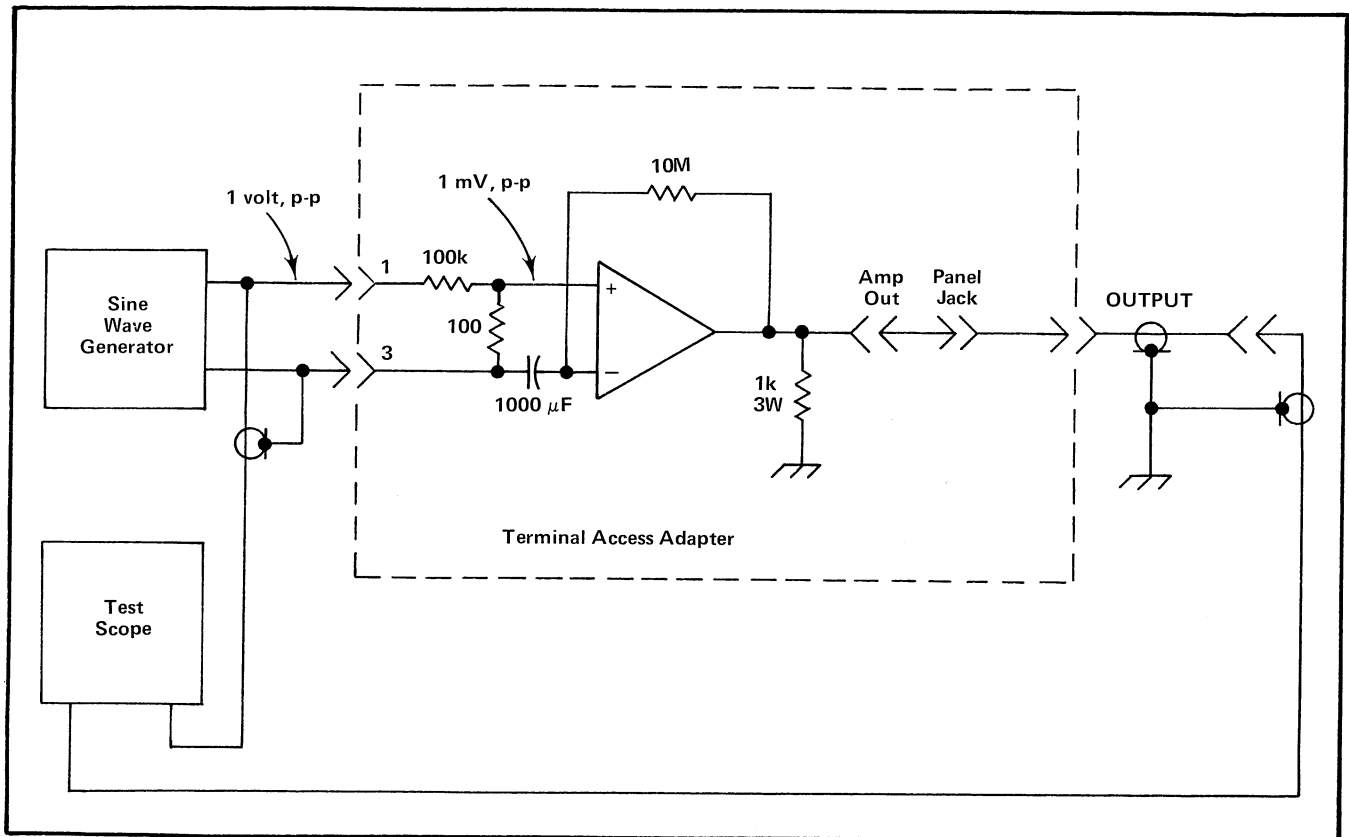

Fig. 5-3. Setup for checking Open Loop Gain.
a. Connect the components on the Terminal Access Adapter circuit board as diagramed in Fig. 5-3.